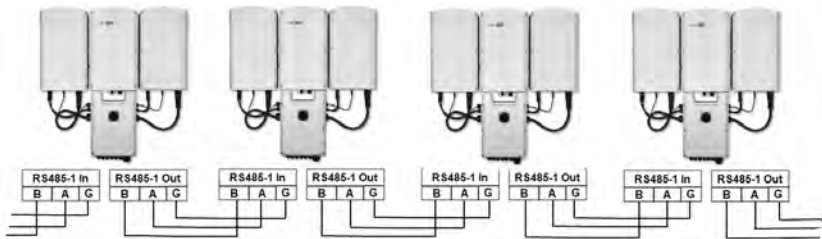

Figure 38: Connecting the inverters on a bus
- Insert the wire ends into the **G**, **A** and **B** pins shown above. Use one terminal block for the previous inverter in the bus and the other terminal block for the next inverter in the bus, as shown in *Figure 38*.